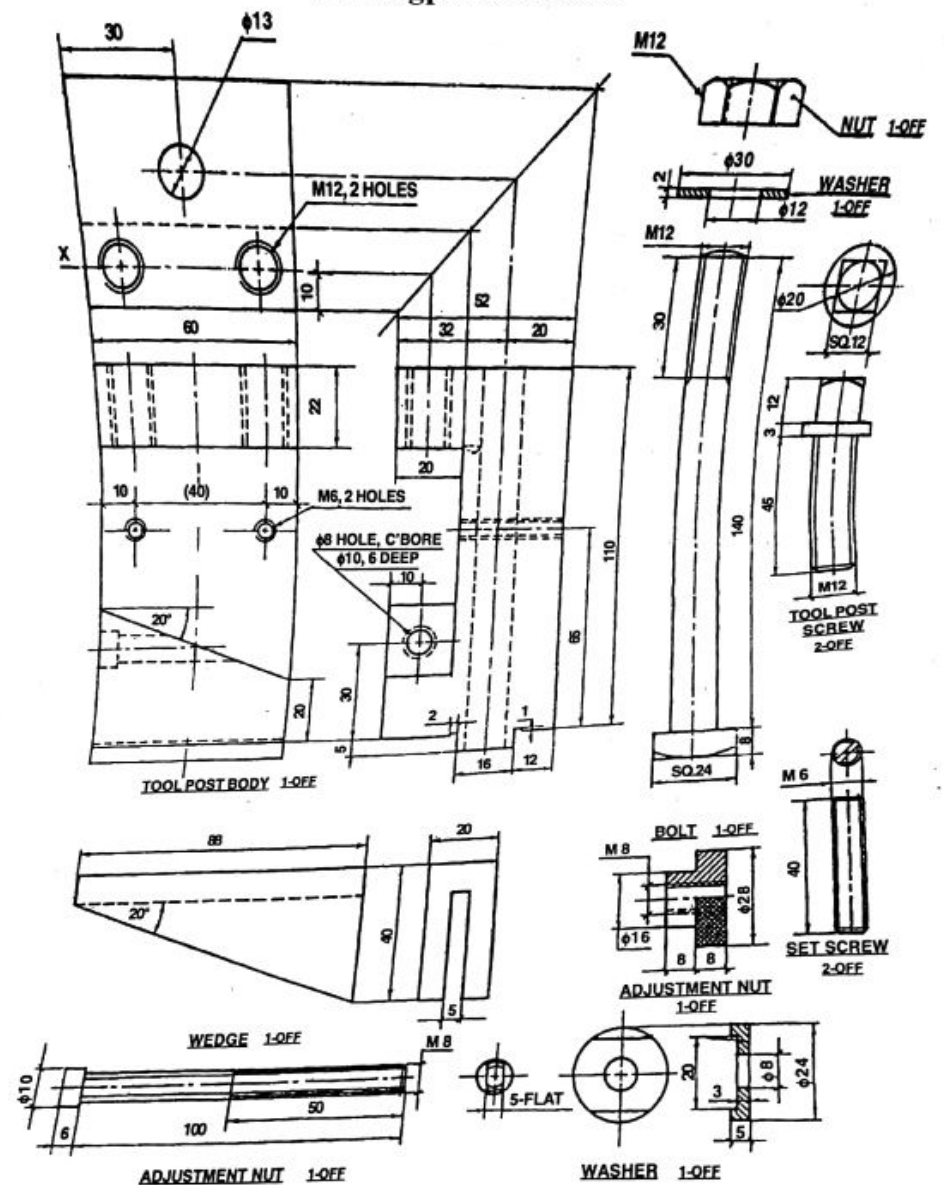

Figure 2 Details of Tool Post
4. Draw the sectional front and top view of Lathe tool post. Show in figure 2.